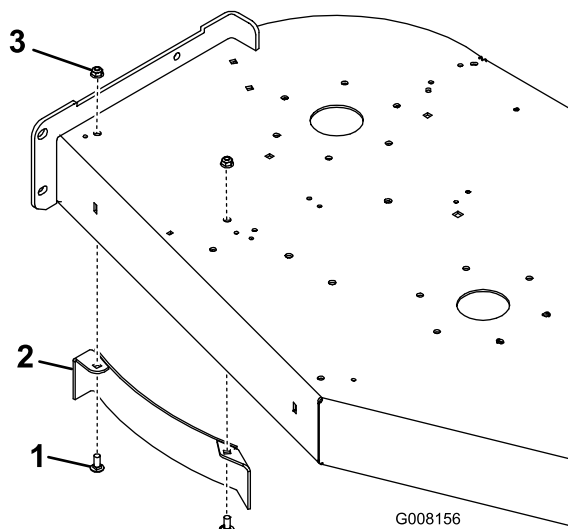

Figure 10
1. Remove the fasteners in the deck as shown in Figure 10. Retain for reuse if the discharge baffle is removed.
2. Install the discharge baffle as shown in Figure 10.